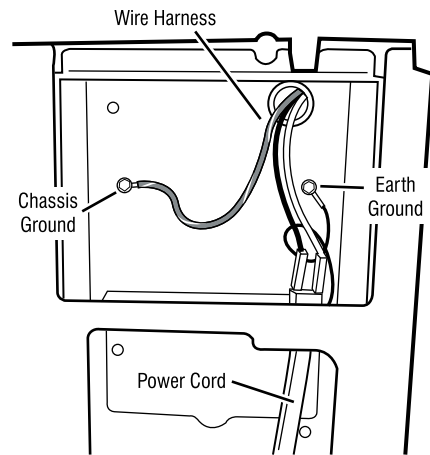
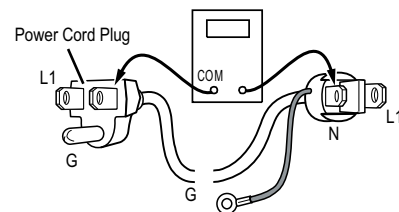

Figure 3. Power cord-to-wire harness connection for gas dryer
Figure 4. Power cord terminals, gas dryer
3. Check that the power cord is firmly connected to the dryer's wire harness. See Figure 3.
5. With an ohmmeter, check for continuity between the neutral (N) terminal of the plug and P2-2 (white wire) on the machine control board. The left-hand side of Figure 4 shows the position of the neutral terminal (N) on the power cord plug.
- If there is no continuity, disconnect the white wire of the harness from the power cord at the location illustrated in Figure 3. Test the continuity of the power cord neutral wire as shown in Figure 4. If an open circuit is found, replace the power cord. Otherwise, go to step 6.
- If there is no continuity, check the continuity of the power cord in a similar way to that illustrated in Figure 4 but for power cord L1 wire.